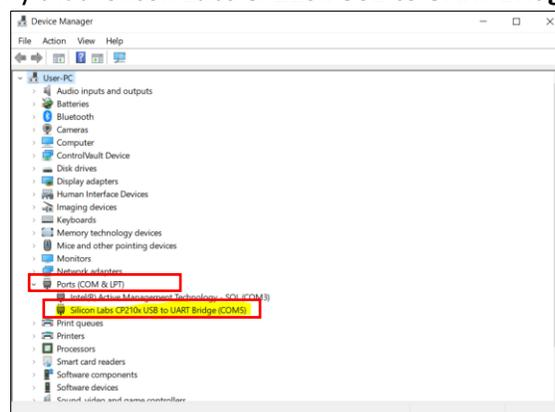

Figure 18: USB Link 2 Driver Installation Verification
14. To ensure that the driver installation occurred without issues, plug in your USB Link 2 device to a USB laptop port, open Windows “Device Manager” (use the Windows 10 search function to locate Device Manager). Expand the Ports tab and verify that “Silcon Labs CP210x USB to UART Bridge (COM5)” is listed (see figure 18).